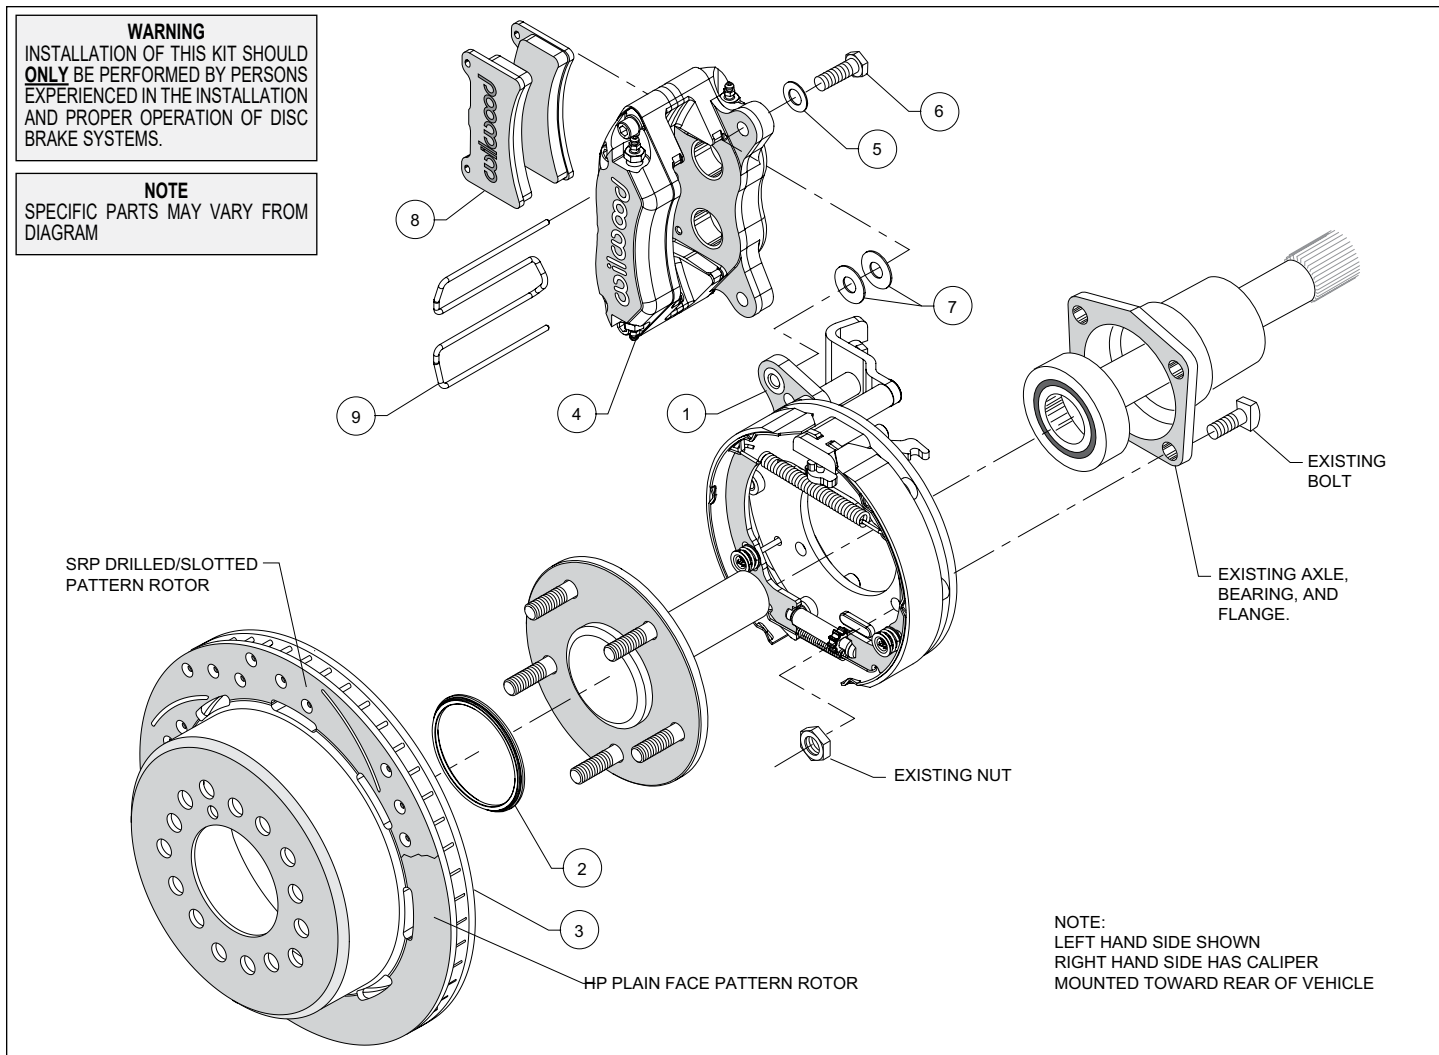
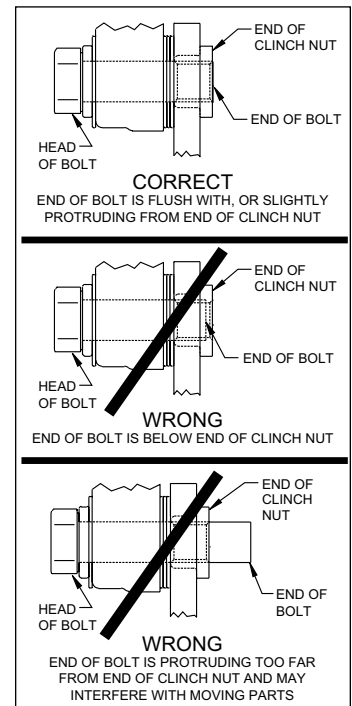

Figure 1. Typical Installation Configuration
Figure 4. Clinch Nut Engagement Diagram
**NOTE:** Numbers in parenthesis refer to the parts list and Figure 1 on the preceding pages.
**CAUTION:** All mounting bolts must fully engage clinch nuts. Be sure to check that all bolts are either flush or protruding through flanged side of clinch nut after shimming, Figure 4.
- Orient the bracket assembly (1), as shown in Figure 1, and mount to the axle housing flange using the Original Equipment Manufacturer (OEM) bolts and nuts, Figure 1. Ensure that the bracket assembly backing plate fits flush against the axle housing flange. Apply red *Loctite*® 271 to the OEM bolt threads and torque to OEM specifications.
- Slide the rotor registration adapter (2) onto the axle register on the axle flange with the smaller O.D. facing toward the rotor/hat (3), Photo 1. Align the correct hole pattern in the rotor/hat with the stud pattern on the axle flange and slide into place, Figure 1 and Photo 2. **NOTE:** The rotor/hat must fit flush against the axle flange or excessive rotor run out may result. Install three lug nuts (finger tight) to keep the rotor/hat assembly in place while continuing with the installation. **NOTE:** Some OEM and after market axles come with stud sizes larger than 0.50" diameter. Verify stud size and have a qualified machine shop drill the bolt circle of the hat/rotor to the correct stud size, if necessary.
•**NOTE:** Please reference the caution statement at the beginning of the assembly instructions. Mount the caliper (4) onto the caliper mounting bracket (1) using bolts (6) and washers (5), as shown in Figure 1.
**For 2.75 offset:** Initially place three .035" thick shims (7) on each bolt between the caliper and the bracket, Photo 3.
**For 2.81 offset:** Initially place one .035" thick shim (7) on each bolt between the caliper and the bracket, Photo 4.
•Temporarily tighten the caliper mounting bolts and view the rotor (3) through the top opening of the caliper. The rotor should be centered in the caliper, Photo 6. If not, adjust by adding or subtracting shims between the bracket and the caliper. Always use the same amount of shims on each of the two mounting bolts. **NOTE:** The end of each bolt must be flush with or slightly protruding from the head of the clinch nut, as shown in Figure 4. If necessary place spare shims between washer (5) and caliper mounting ear to achieve the proper clinch nut engagement. Once the caliper alignment and clinch nut engagement are correct, remove the bolts one at a time, apply red *Loctite*® 271 to bolt threads, and torque to 40 ft-lb.
•Install the disc brake pads (8) into the caliper (4), with the friction material facing the rotor (3), and secure in place using pad clip retainer (9), Photo 7.
•**NOTE:** Clevis and cable kits which attach to the parking brake assembly are not included in the Wilwood parking brake kit. Wilwood offers a generic style parking brake cable kit, P/N 330-9371 for this application which can be ordered separately from your local Wilwood dealer or by calling Wilwood customer service at (805) 388-1188.
•Before final installation of the wheel, install three lug nuts, remove the rubber grommet in the bracket kit assembly (1) and adjust the parking brake shoes outward (using a drum shoe adjustment tool available at your local auto parts store) while spinning the rotor/hat (3) until a slight drag is felt against the hat/drum. Replace the rubber grommet when finished.